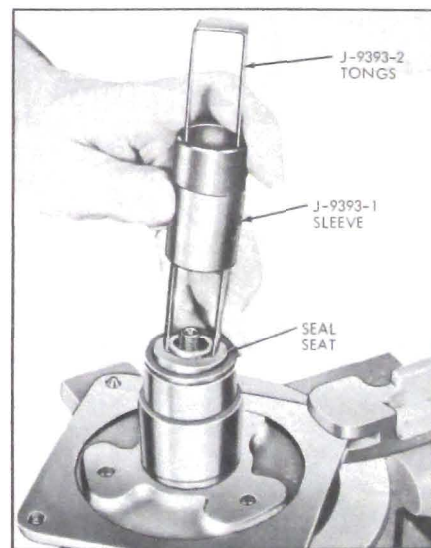

Figure 11-108—Removing Shaft Seal Seat
3. Remove shaft seal seat, using J-9393-1 and 2 to grasp flange on seal seat. See Figure 11-108. Pull straight out of end of tool to remove seal seat.